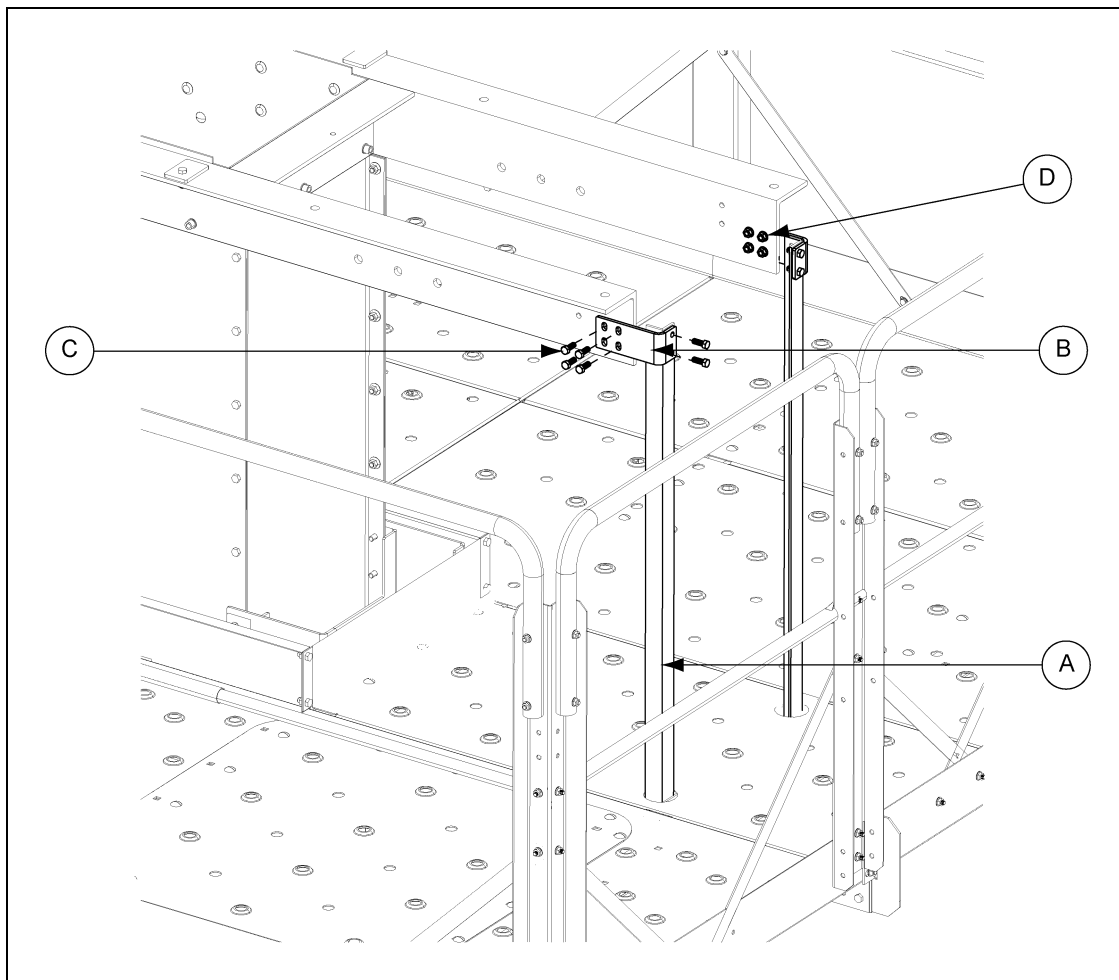

Figure 10A 30" Bearing Support Clips and Angles
1. Connect two (2) HP head bearing support brackets (HP30HBE) (B) as shown to the lower head using 3/8" x 1" bolts (S-7469) (C) and nuts (S-3611) (D).
2. Attach two (2) head bearing angle supports (HP30HBS) (A) to the head bearing support brackets (HP30HBE) (B) and cross deck support channels with 3/8" x 1" bolts (S-7469) (C) and nuts (S-3611) (D). (See Figure 10A.)